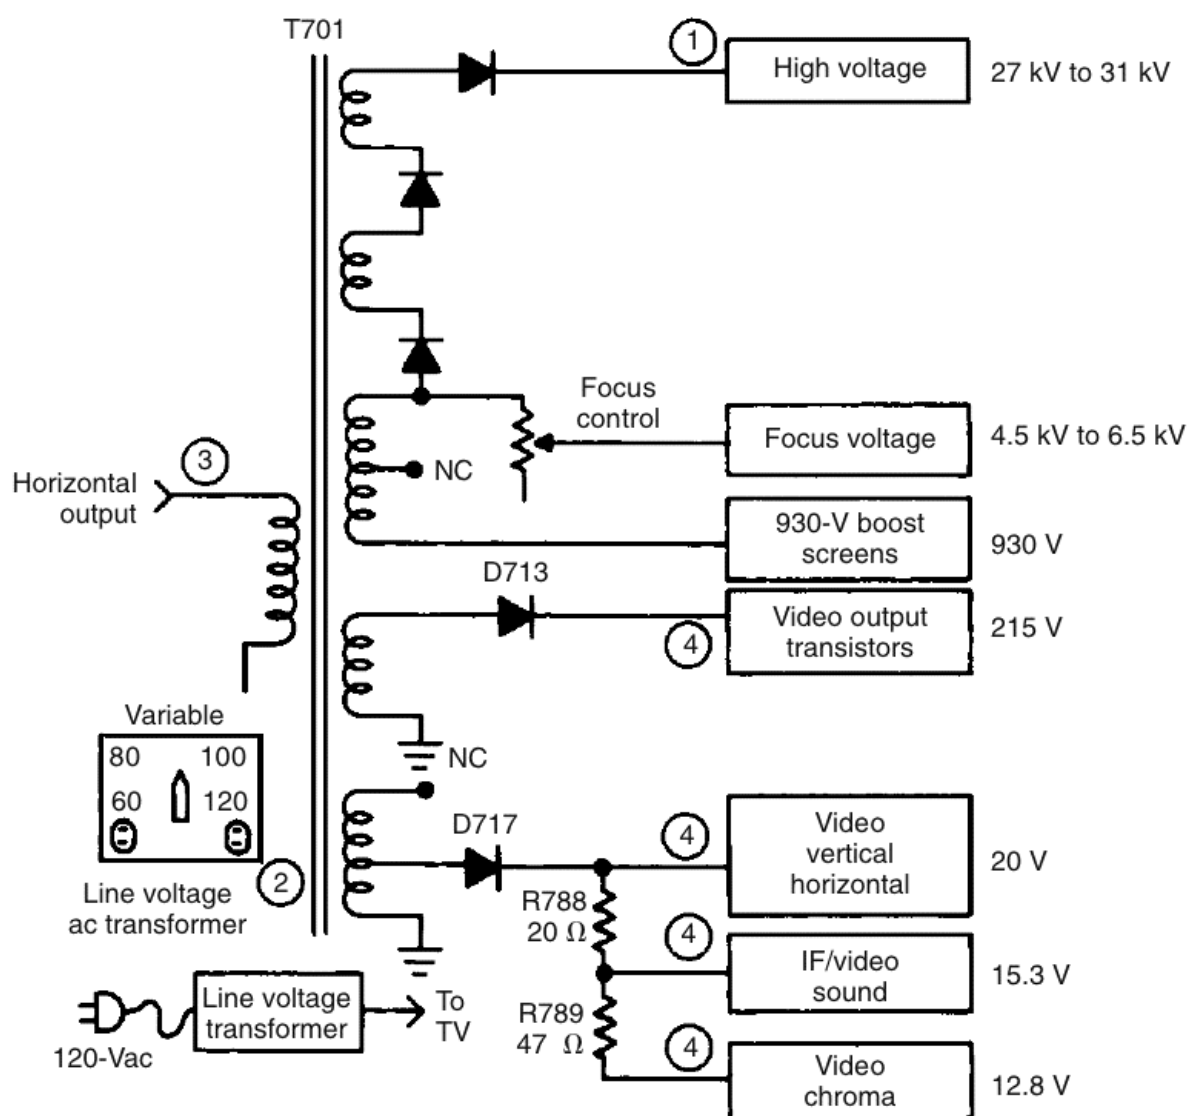

FIGURE 5-21 Check the horizontal output transformer circuits by the number to locate a defective component.
Check the high-voltage circuits with the integrated horizontal output transformer in the very same manner (Fig. 5-21) (1). If the transformer has a tic-tic noise and is in chassis shutdown, connect a variable line transformer to the chassis (1). Slowly bring up the ac voltage and notice at what voltage shutdown occurs. Check the chassis for high-voltage shutdown with a higher-than-normal low or high voltage. Check the voltage at the collector terminal of the horizontal output transistor (3). Determine if the secondary voltage circuits are overloading the flyback in chassis shutdown. Disconnect each voltage source until the overloaded circuit responds with normal voltage at the horizontal output transistor (4). Do not overlook the possibility that the horizontal output transformer is defective.